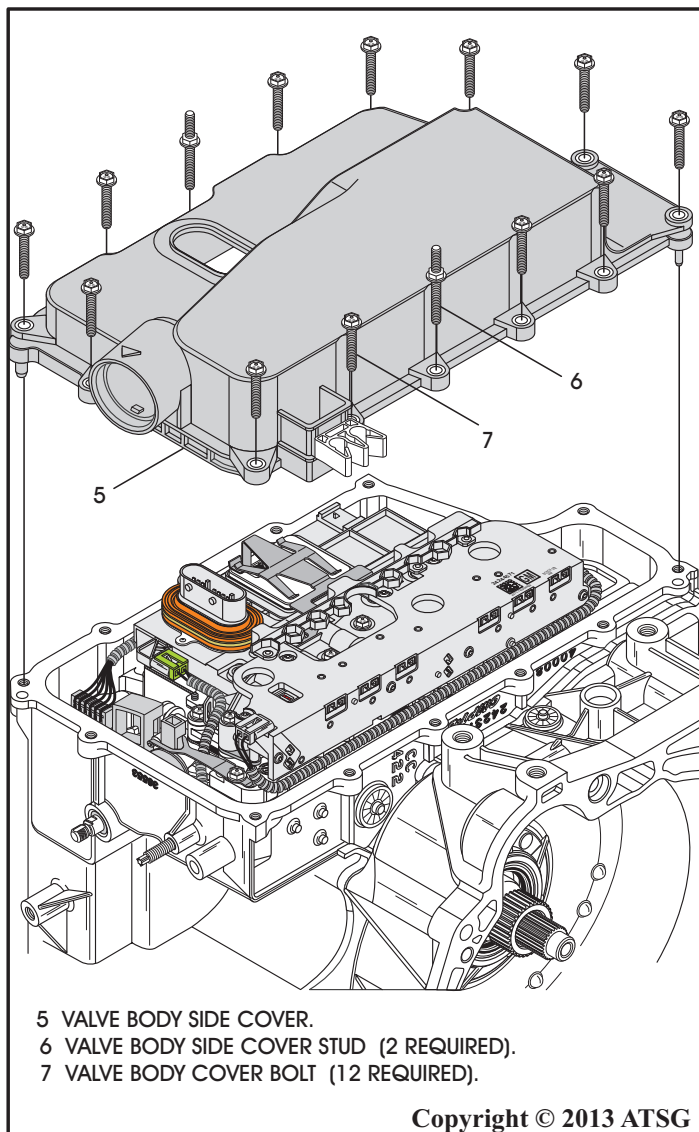

Figure 223
68. Install the valve body side cover with gasket onto the transmission, as shown in Figure 223.
69. Install the 12 valve body side cover bolts and the 2 valve body side cover studs, as shown in Figure 223.